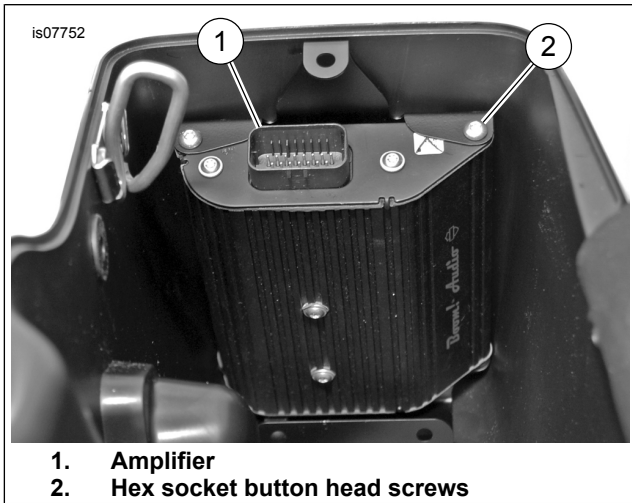

Figure 8. Amplifier Installation
13. See Figure 8. Position the amplifier with the grommets in the holes in the bottom of the amplifier bracket. Slide the top into the bracket. Install the hex socket button head screws (2). Tighten to 9.4–12.2 N·m (7–9 ft-lbs).